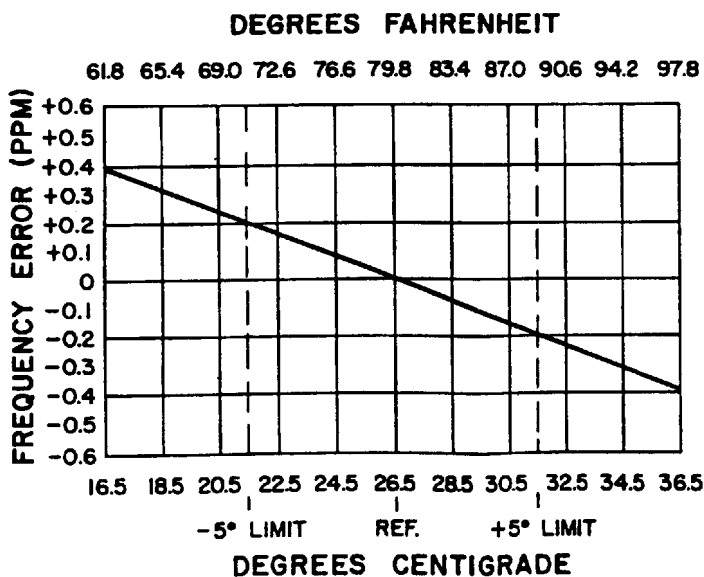

Figure 7 - Frequency Characteristics Vs. Temperature
To SET ICOM frequency using "beat frequency" method, the temperature should be at 26.5°C (79.8°F). If the temperature is not 26.5°C, then offset the "on frequency" signal (at the receiver's input), as a function of actual temperature, by the frequency error factor (in PPM) shown in Figure 7.
2. Maintain the radio at 26.5°C ($\pm 10^\circ\text{C}$) and offset the oscillator, as a function of actual temperature, by the frequency error factor shown in Figure 7.
B. To hold setting error to ± 0.35 PPM (which is considered reasonable for 2 PPM ICOMS): Maintain the unit at 26.5°C ($\pm 5^\circ\text{C}$) and offset the oscillator, as a function of actual temperature, by the frequency error factor shown in Figure 7.